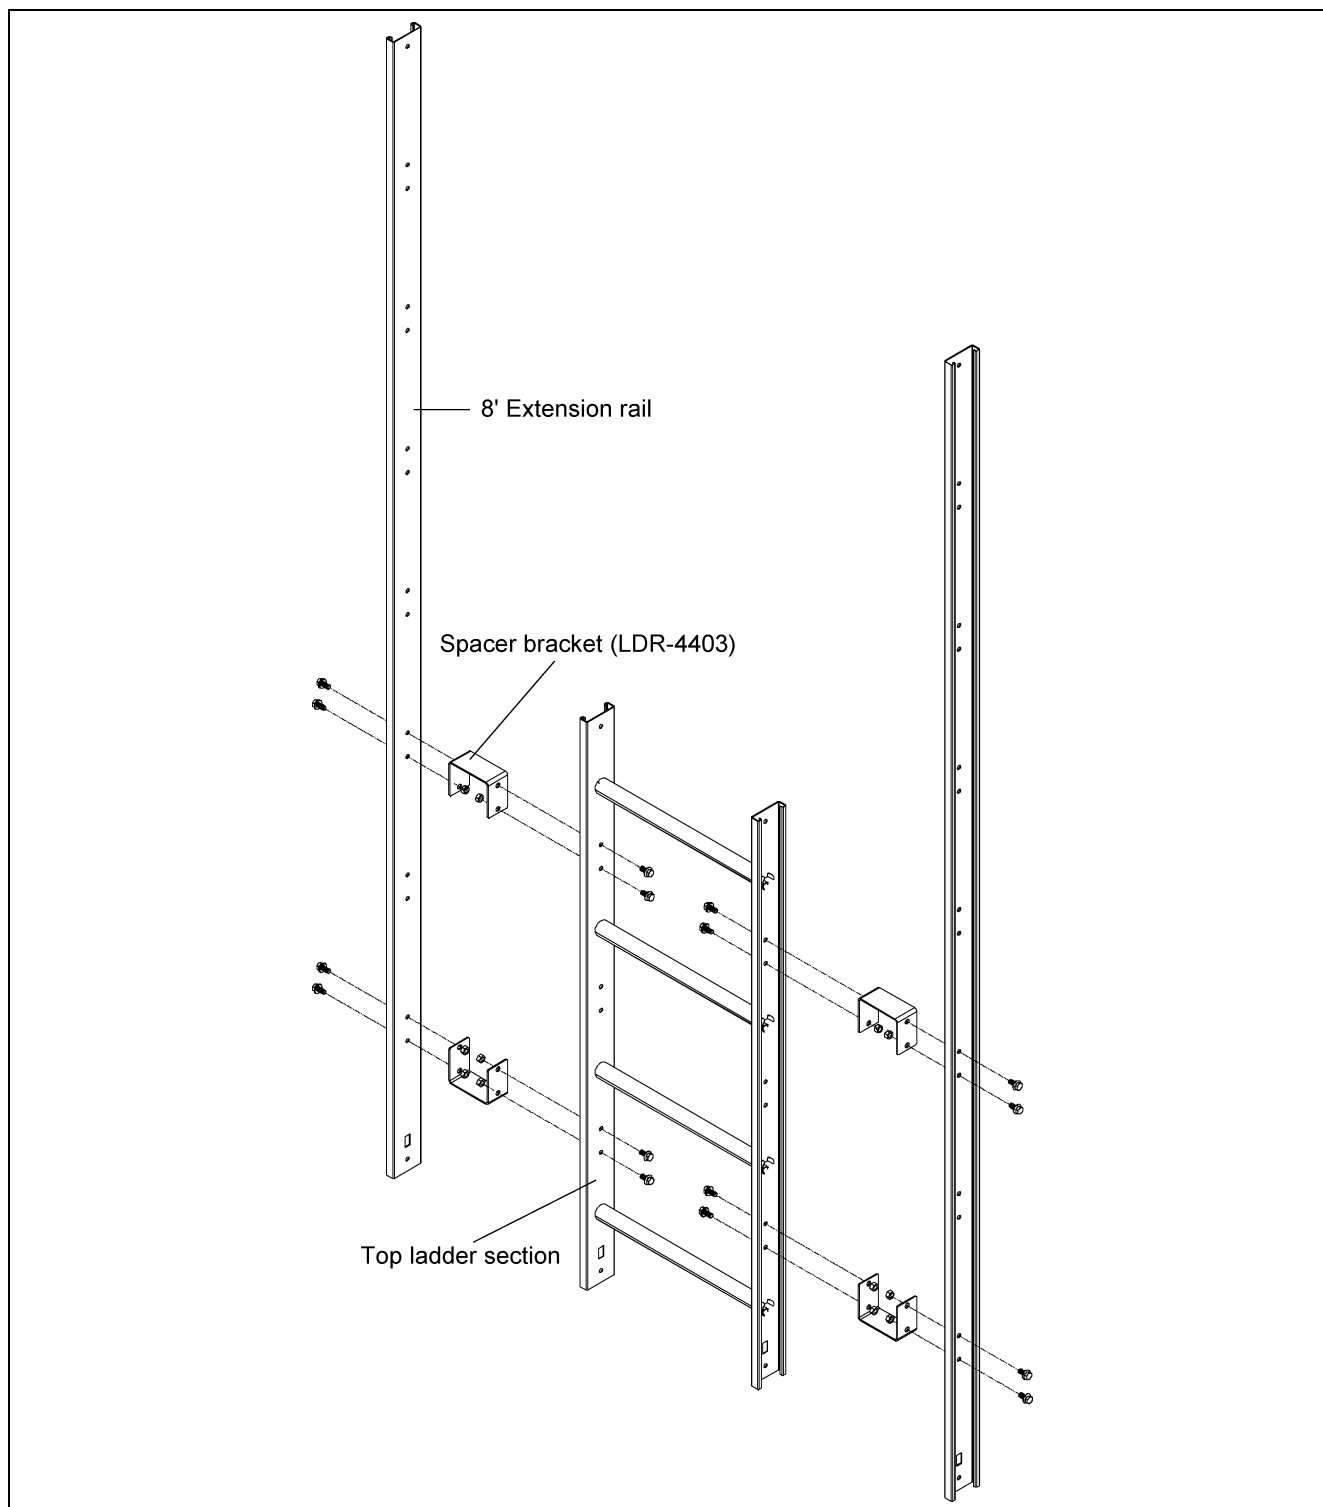

Figure 4A Ladder Extension
All ladder systems that include a safety cage must also include ladder extension rails attached to the top four foot (4') ladder section. Start by bolting the spacer brackets through the top and bottom set of holes in the top ladder section. Then, attach the extension rails to the spacer brackets as shown in Figure 4A. When installed correctly, the bottom of the extension rail should be flush with the bottom of the top ladder section. Use 5/16" x 3/4" bin bolts for all connections.
**NOTE:** Refer to Figure 4A on Page 12 for additional details for standoff bracket to ladder assembly and cage hoop bracket to ladder.